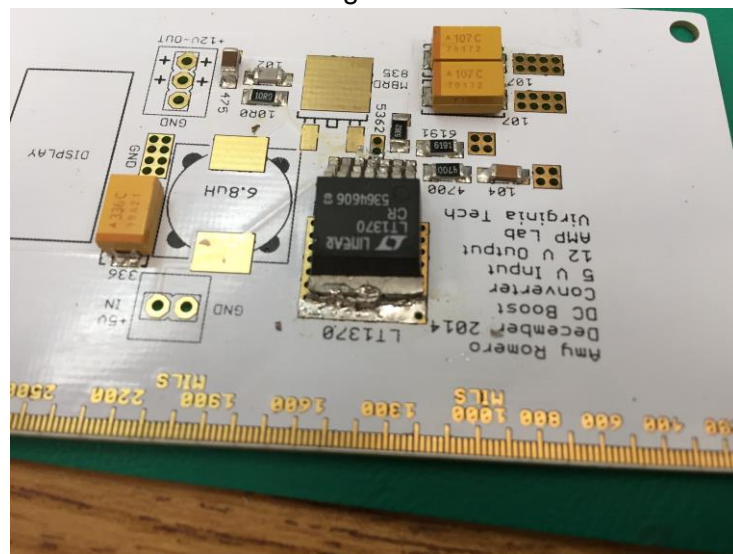

Figure 7.
- i. Slowly feed solder into the iron and allow it to melt. Continue until most of the pad is soldered on. Try to make the connection look as clean as possible. (Figure 7)